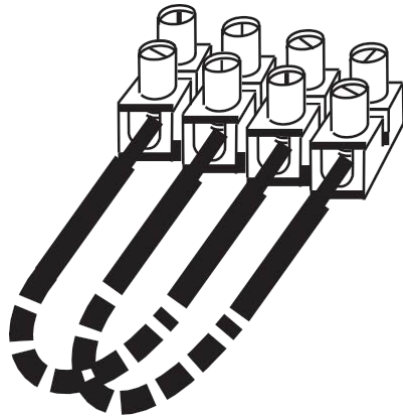

Fig. 9: Temporary Loop Connection
At this stage, do not wire in any isolator bases, or other modules, or fit the detectors. This is to avoid potential damage caused by the high voltage insulation checks. Use strip connectors (Fig. 9) for any temporary connections, to preserve continuity. For connection details see the individual leaflets or labels provided with the products.
- 3 Connect the loop wiring tails to a strip type connector block, with screw terminals, as shown in Fig. 9. Leave the wiring loose within the panel.
- 5 Remove the temporary connections that you had made to the connector block, (Fig. 9).